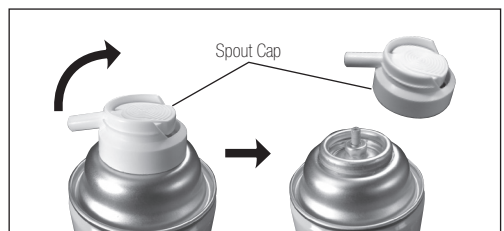

Fig. 2
(2) Remove the Spout Cap from PANA SPRAY Plus. (Fig. 2)